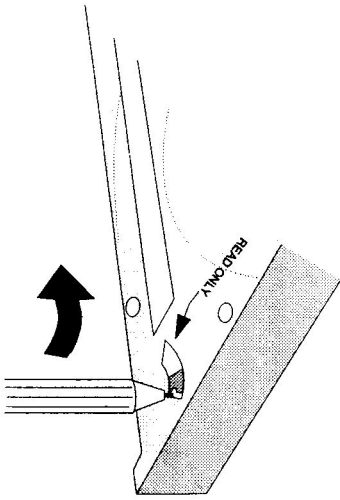

Figure 17. Write-protecting the Cartridge
2. Using the end of a ball-point pen, rotate the switch toward the READ ONLY arrow, as shown in Figure 17.